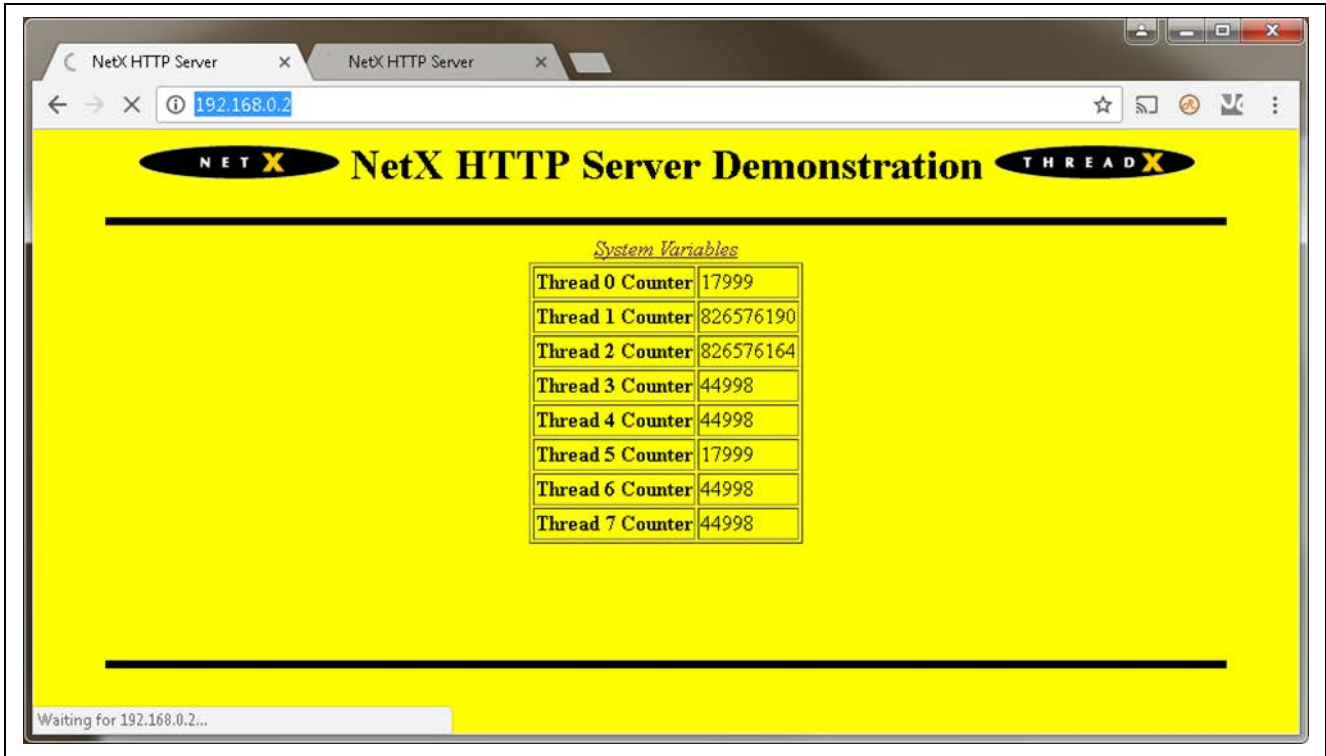

Figure 10. HTTP Webpage
- In a web browser, enter the IP address that you used with the ping command in the previous step in the text field where you normally type a URL, such as www.google.com. You should see the view in Figure 10.